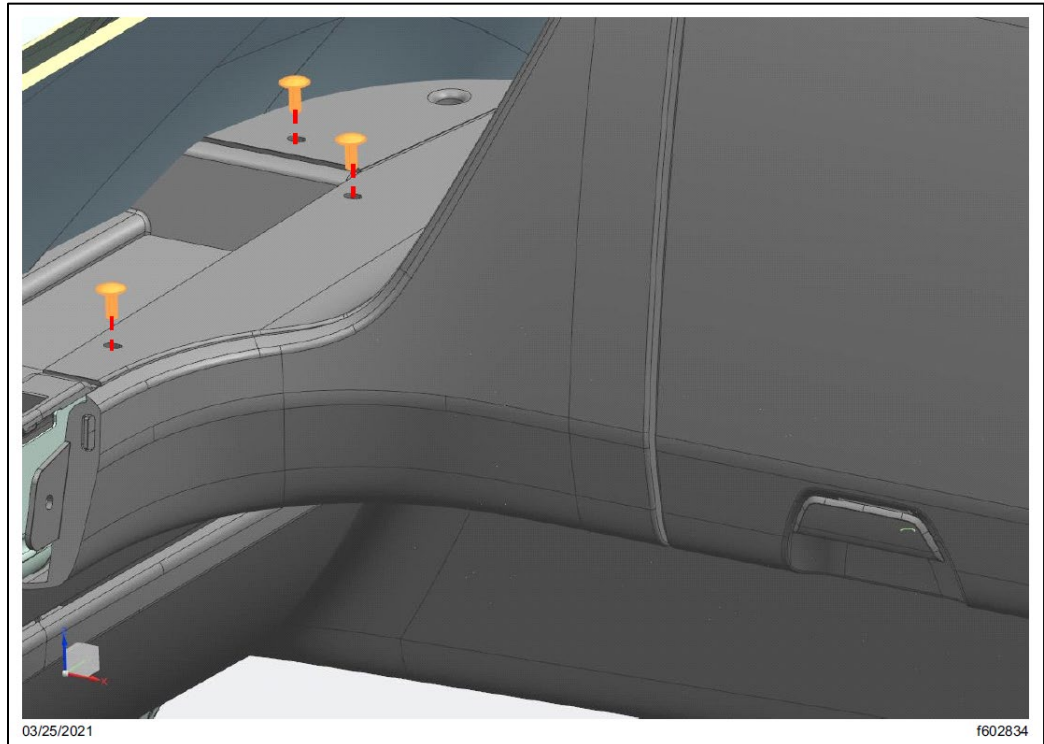

Fig. 51, Fasteners That Attach the RH Overhead Storage Assembly to the Storage Shelf Flanges
- 9.2. Remove the three fasteners that attach the RH overhead storage assembly to the storage shelf flanges. See Fig. 51.